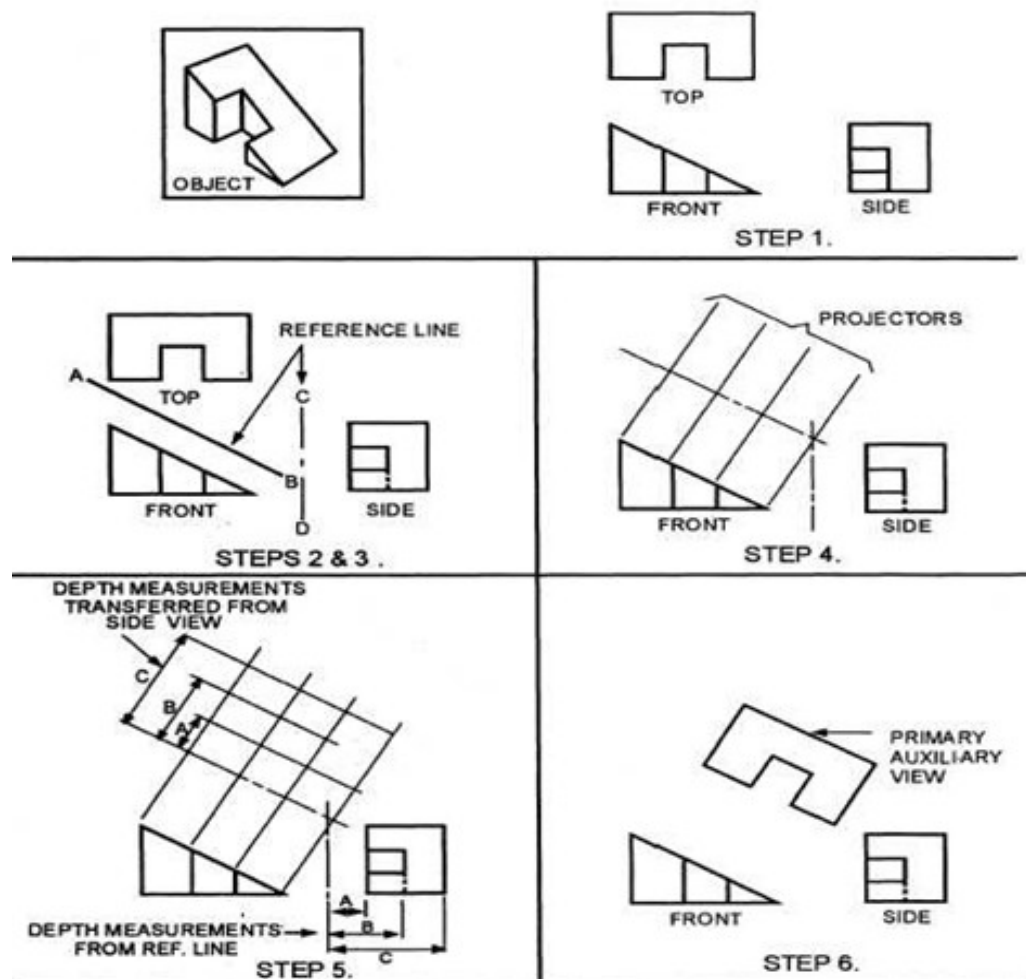

Fig. 4.2 Drawing an Auxiliary View
1. Draw two adjacent principal views, one of which must show the inclined surface as an edge (fig.4.2 is used as a reference).
2. Lightly draw a reference line (AB) parallel to the edge view of the inclined plane.
3. Lightly draw a reference line (CD) between the two principal views. Use AB and CD to locate points in the auxiliary view.
4. Draw projectors from the inclined edge rotating reference line AB parallel with the inclined surface. These projectors are perpendicular to the inclined edge and the reference line as shown in figure.4.2